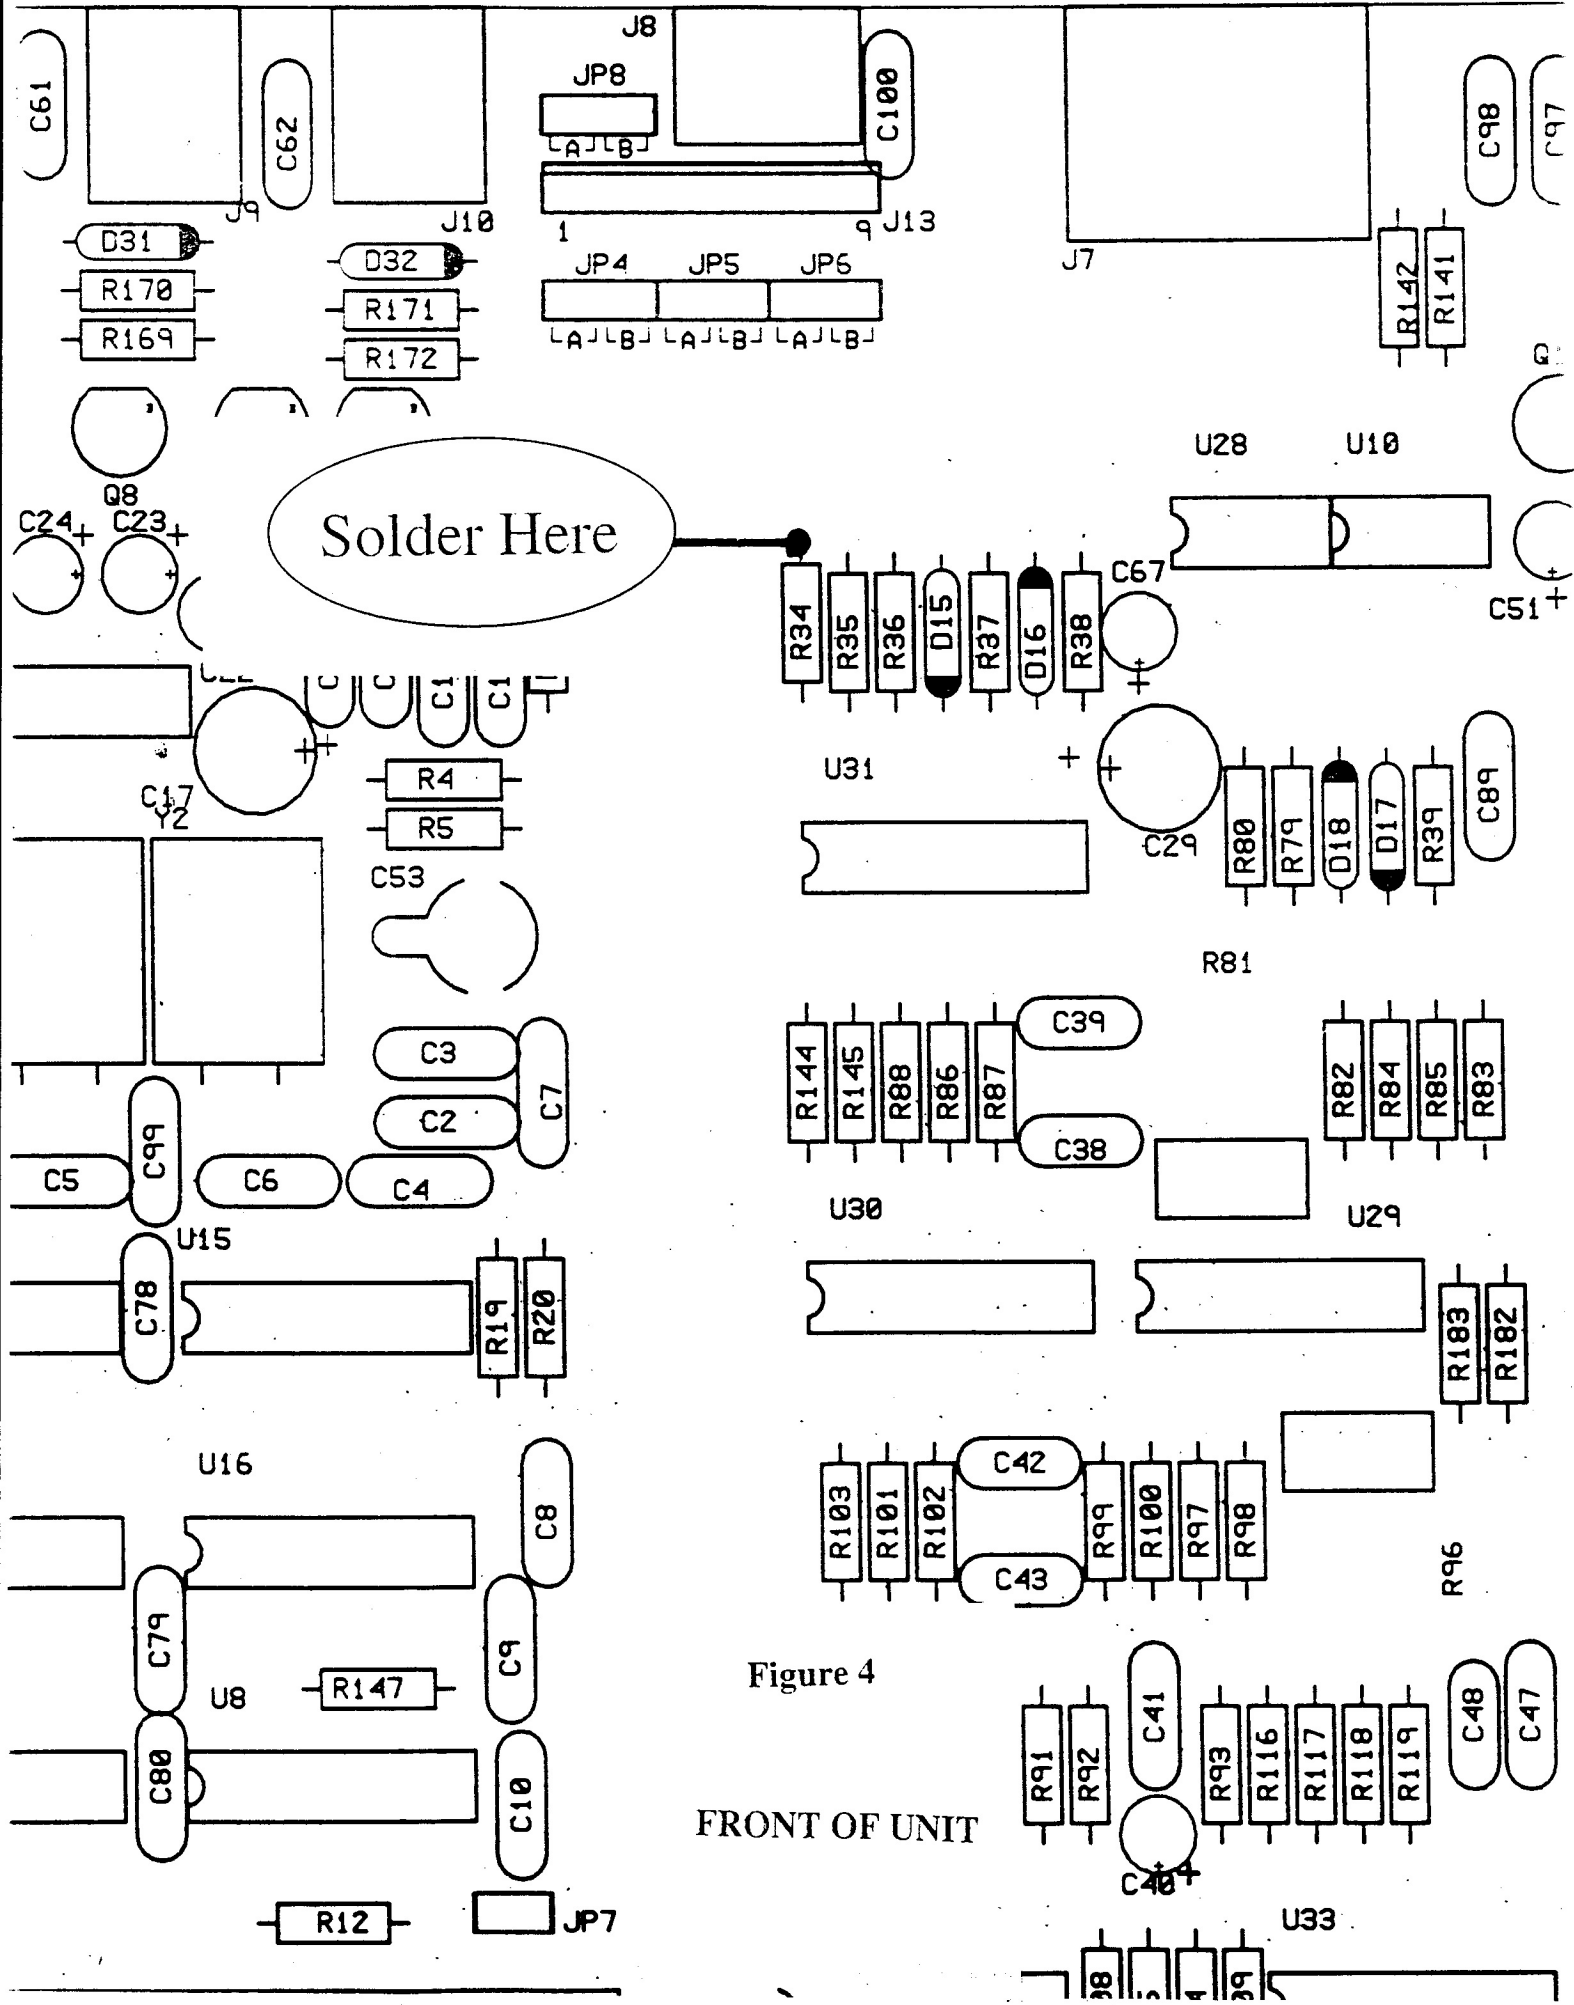

Figure 4
- 12) The center wire is attached to the top lead of R-34 (10K ohms, Brown, Black, Orange) see fig. 4. Use the same "U" bend technique to attach the wire that you used on R-186. Solder.